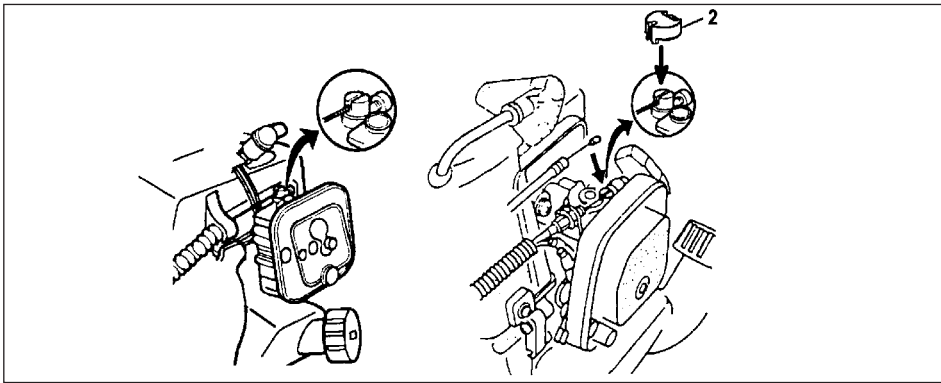

Fig. 1-6
Connect throttle wire end to carburetor and install swivel cap (2) (if so equipped) where is included in tool bag, onto swivel (Fig. 1-6)